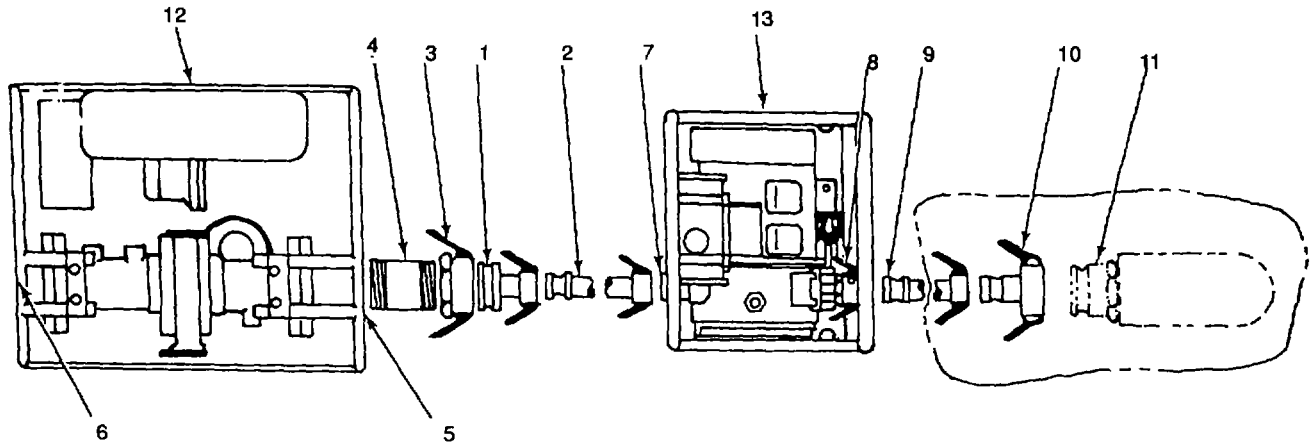

Figure 2-47. Hypochlorination Unit, 125 GPM Pump, and Storage Tank Assemblies
- (20) Remove elbow valves (11) from ends of two hoses (13).
- (21) Push cam arms on discharge hoses (13) forward to open. Remove hoses (13) from end of wye-connection (5).
- (22) Repeat steps (15) through (18) with second set of hoses, wye-connection, and gate valve.
- (23) Push cam arms on wye-connection (10) forward to open. Remove wye-connection (10) from end of hose (14).
- (24) Push cam arms on female reducer (1, Figure 2-47) forward to open. Remove end of hose (2) from female reducer (1) on suction port of hypochlorination unit (12).